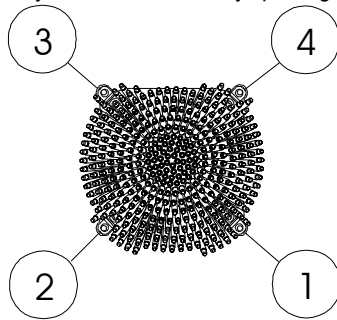

Figure 3
- Tighten the screws in a cross sequence: 1 – 3 – 2 – 4 as shown in figure 3, following the procedure described below: